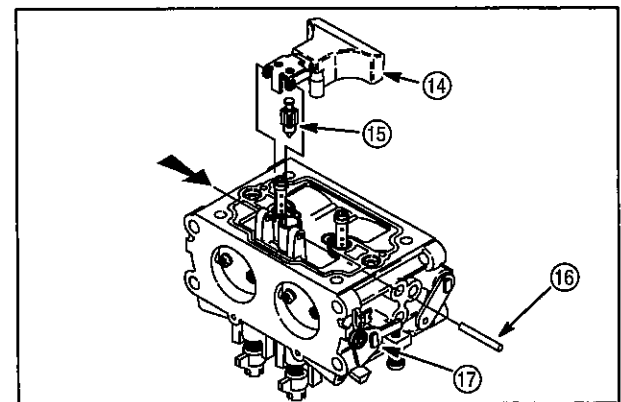

Fig. 64
7. Drive out float hinge pin (16) from side OPPOSITE throttle lever (17). Remove float (14) and fuel inlet needle (15) assembly, Fig. 64.